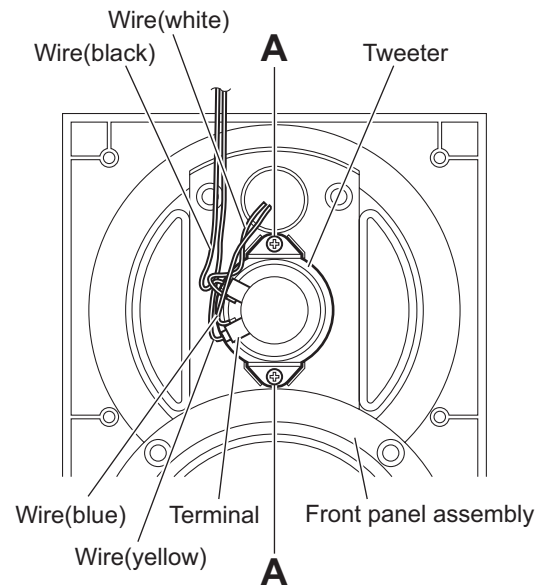

Fig.3
(2) From the inside of the front panel assembly, disconnect the yellow and black wires from the terminal of the tweeter. (See Fig.3.)
### 3.4.3 Removing the tweeter (See Fig.3)